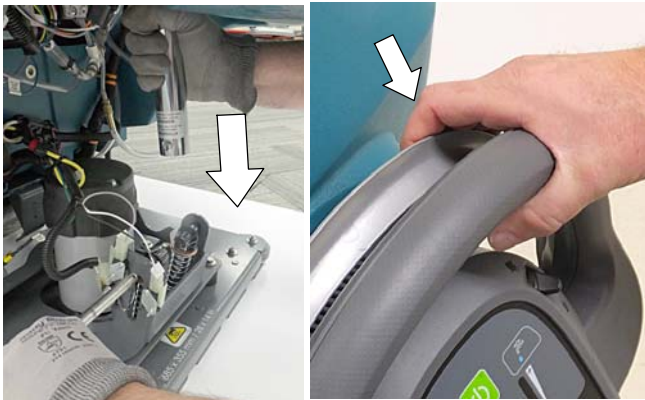

Fig. 24
c. Two people are required to perform this step. Grip actuator tube by hand and slowly pull the start bail to lower the actuator (Figure 24). Insert pin when tube is aligned with scrub head bracket.